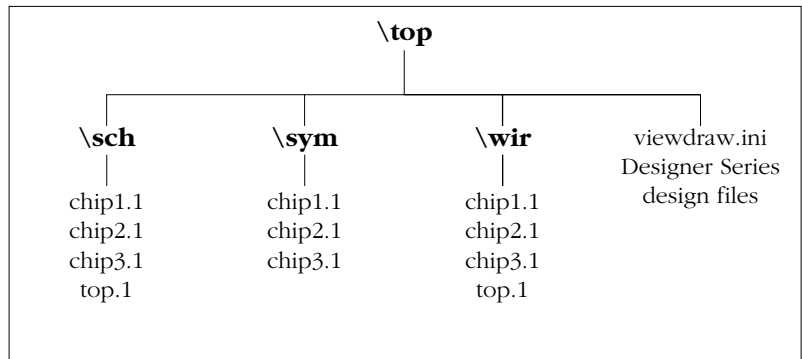

Figure 4-1. Directory Structure for Multichip Simulation
- 1. Create a top level schematic and instantiate the individual chip designs.** This example, assumes there are three designs with instance names “chip1,” “chip2,” and “chip3.” The name of the top level schematic is “top.” Figure 4-1 depicts the directory structure